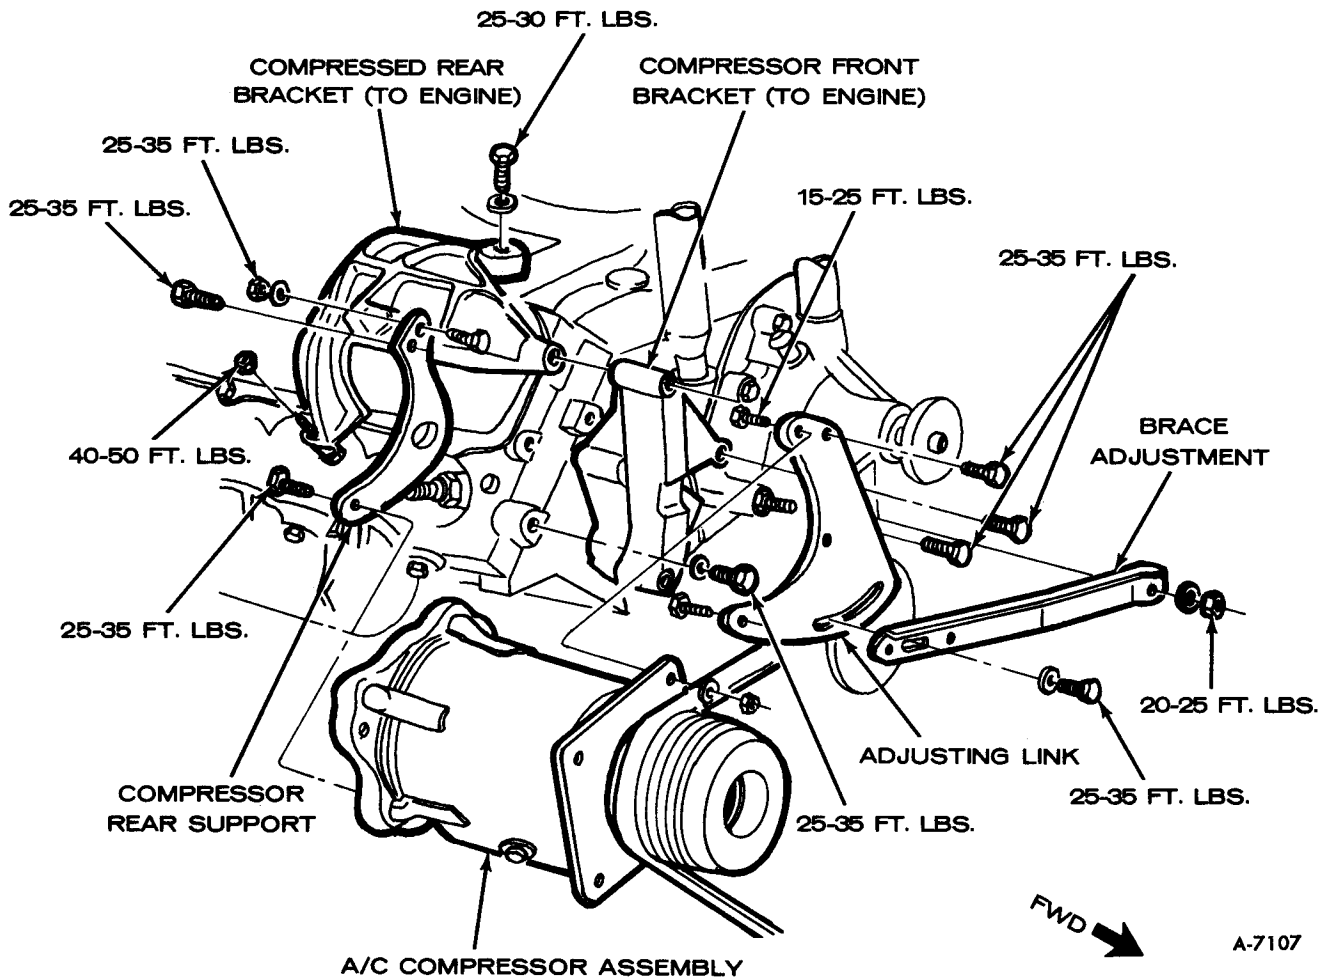

Figure 13—Air Conditioning Compressor Mounting
5. Remove air conditioning compressor brackets and struts as necessary. See figure 13.
10. Install air conditioning bracket(s) and any struts which were removed. (Refer to figure 13).
4. Loosen belts and remove accessories and mounting brackets. It will be necessary to wire the air conditioning compressor up for support after removing its brackets and support struts (figure 13).